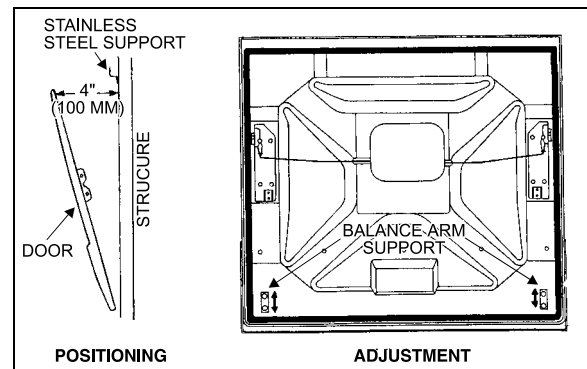

FIGURE 55: BAGGAGE COMPARTMENT DOOR 18065
2. Slightly open the door, position it to obtain a gap of $4"$ (100mm) between structure and door panel upper lip, maintain door in this position while an assistant completes tightening the two bolts retaining door to each balance arm support (Fig. 55).